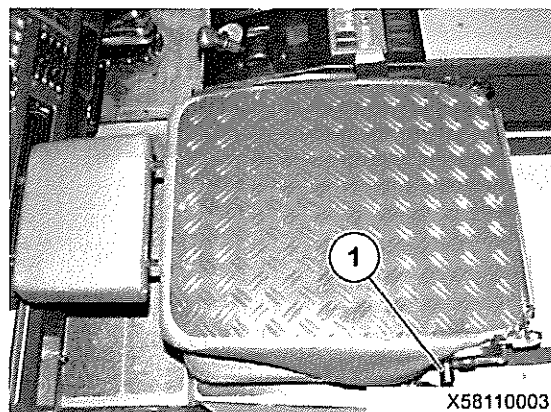

Fig 4 Folding the centre seat
9 Refer to Fig 4. To fold the centre seat forward to the platform position, pull the backrest adjustment lever (1) upwards and fold down the backrest until the seat locking device is heard to engage.
9.1 To move the centre seat back to the seat position, pull the backrest adjustment lever (1) upwards and move the backrest to the rear until the lock is heard to engage.